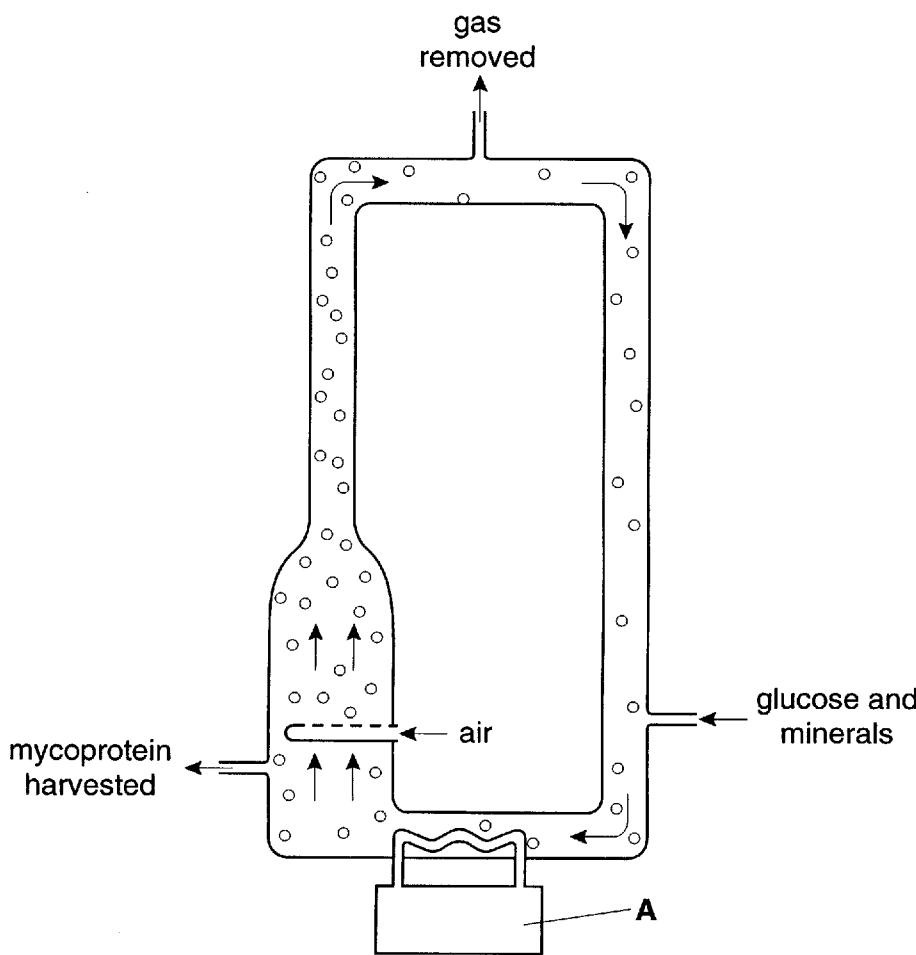

Fig. 3.1
- 3 Fig. 3.1 is a diagram showing a large-scale fermenter that is used in the production of mycoprotein.